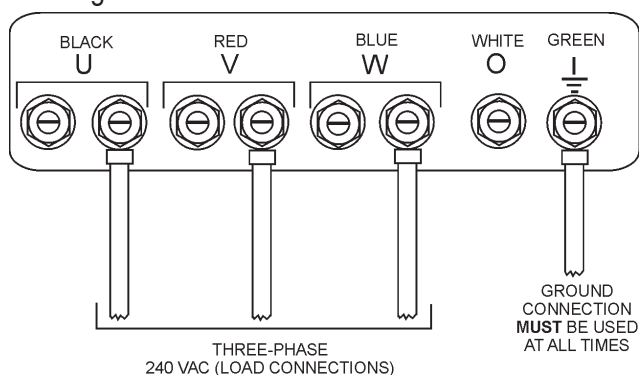

Figure 22. UVWO Terminal Lugs
2. Connect the load wires to the UVWO terminals as shown in Figure 22.